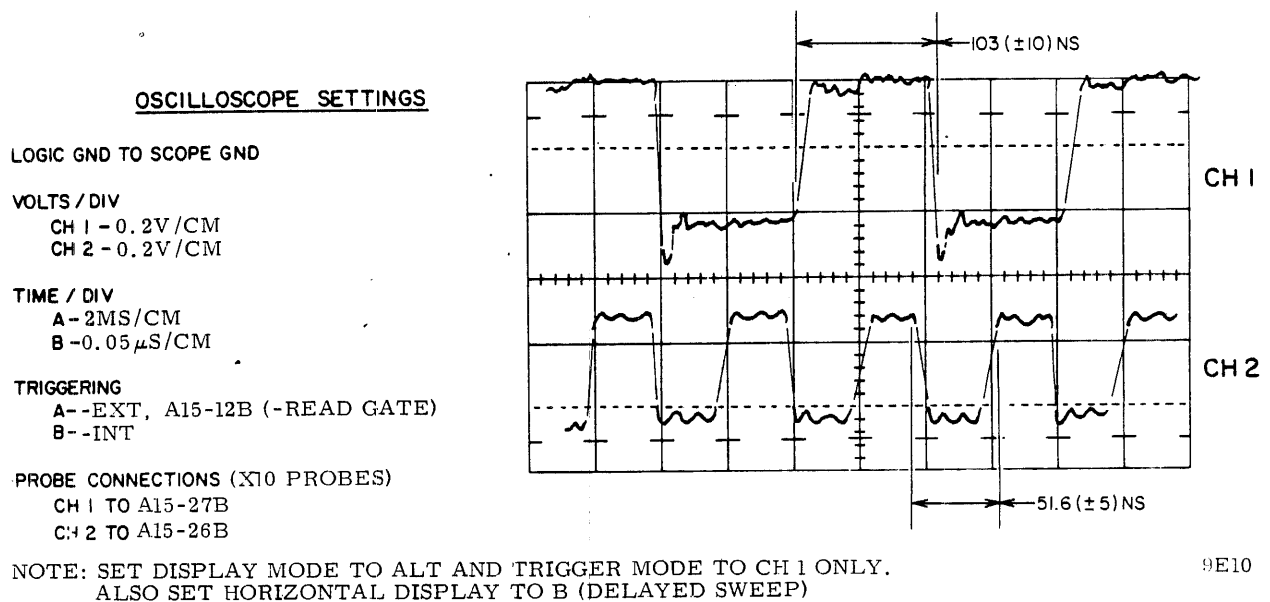

Figure 5-17. Read Data to Read Clock Timing
- a. Connect and setup oscilloscope as shown in figure 5-17.
- b. Observe that displayed signals have timing relationships as shown on figure 5-17.